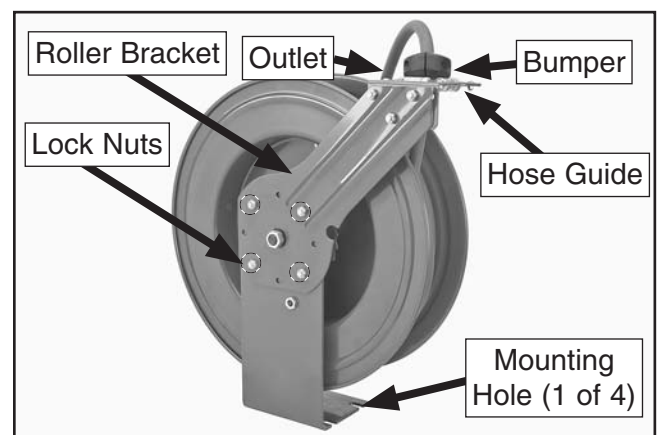

Figure 2. Roller bracket and main components.
2. Check that the hose guide roller bracket position (see **Figure 2**) is suitable for the chosen mounting position.
3. Mark the location of the mounting holes on the reel base (see **Figure 2** on **Page 1**) in the chosen location, then secure with $\frac{7}{16}$ " grade 5 fasteners.
8. To adjust the hose bumper (see **Figure 2**), pull some hose out until it clicks in place, loosen the screws on the bumper, slide it close to the hose guide, then tighten the screws.
2. Using a 13mm wrench, remove the four lock nuts and carriage bolts on the roller bracket, (see **Figure 2** on **Page 1**) rotate the bracket to any of the alternate positions, then re-install the carriage bolts and lock nuts.